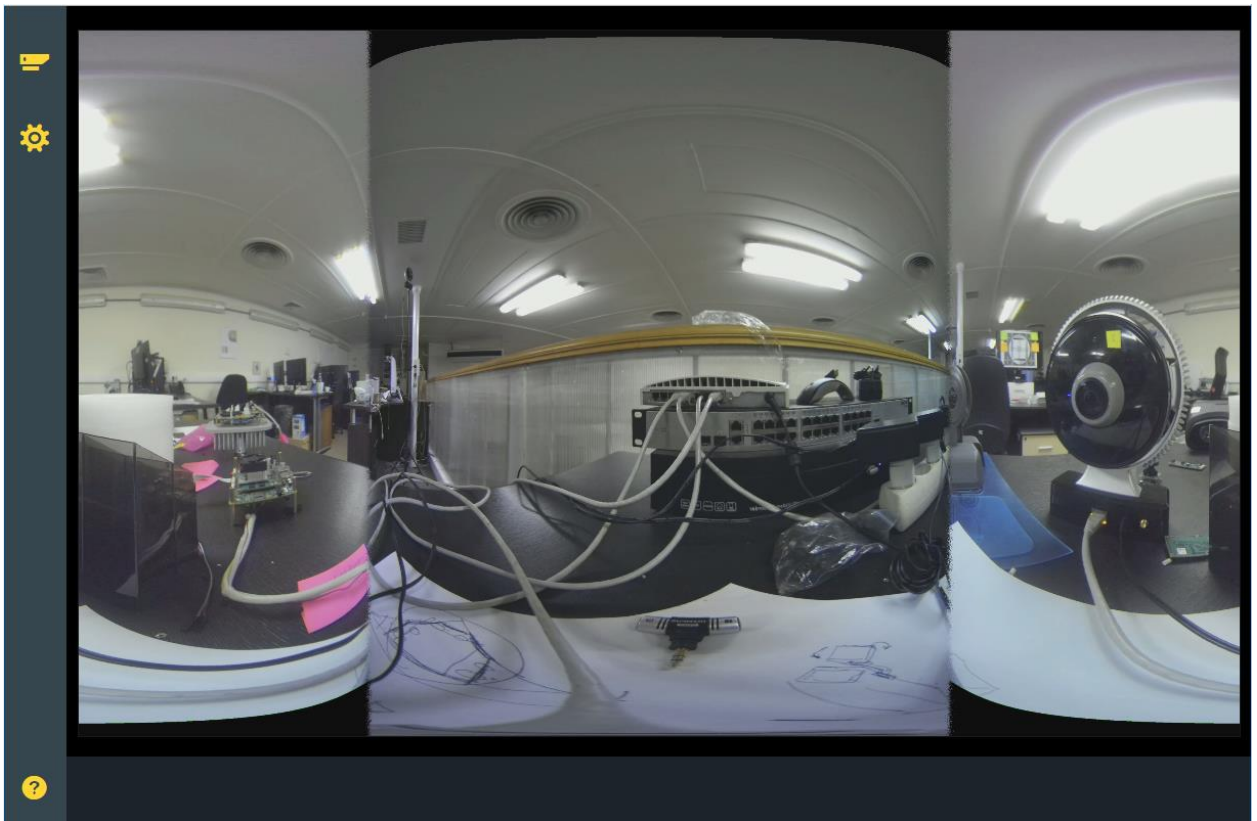

Figure 5.4 - The main page of the web interface.
3. Enter “admin” in the Login field and “admin” in the Password field. Press the Enter key. The main page of the web interface will open, as shown in Figure 5.4. (The video image on the main page may not be available, it depends on the selected broadcast format, for more details see p. 5.3.1 Setting the broadcast format).
After that, a live video will appear on the main page of the web interface (see Figure 5.4).